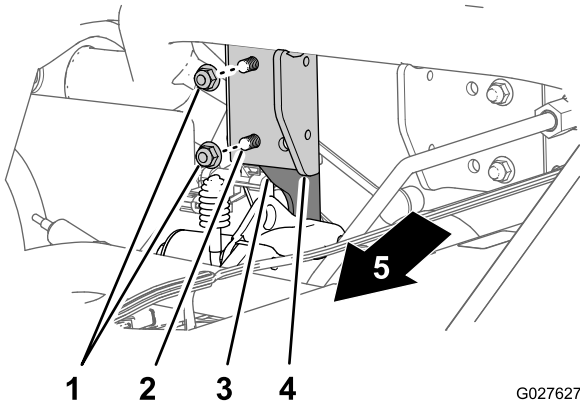

Figure 7
2. Remove the 2 flanged locknuts that secure the differential support to the differential mount (Figure 7).